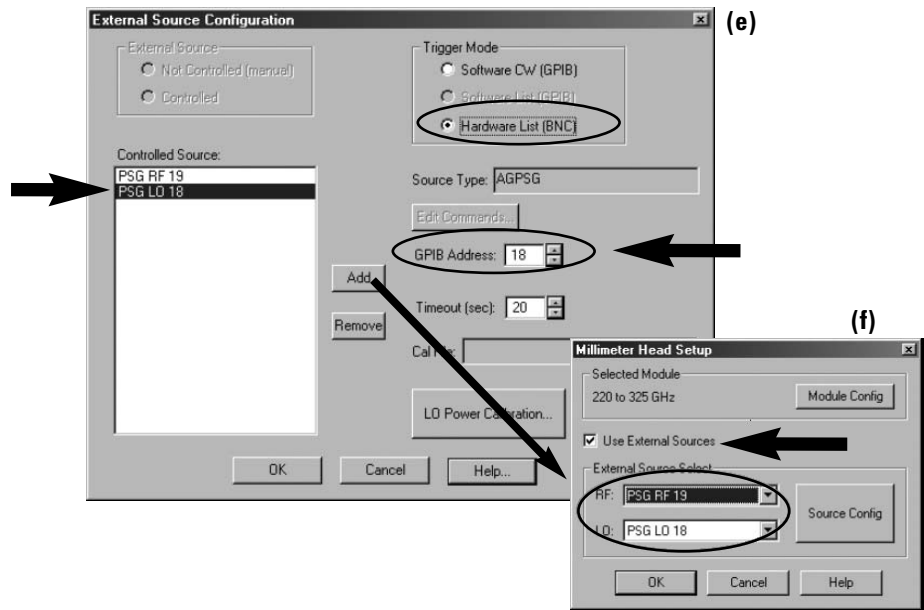

Figure 9. Steps necessary to configure and apply external synthesizers.
1. **System > Configure > External Source Config...**, this brings up display (a) as shown in Figure 9.
6. **System > Configure > Millimeter Module Config...**, this brings up display (f) of Figure 9. (This example shows the “Selected Module” as “220 to 325 GHz”.)